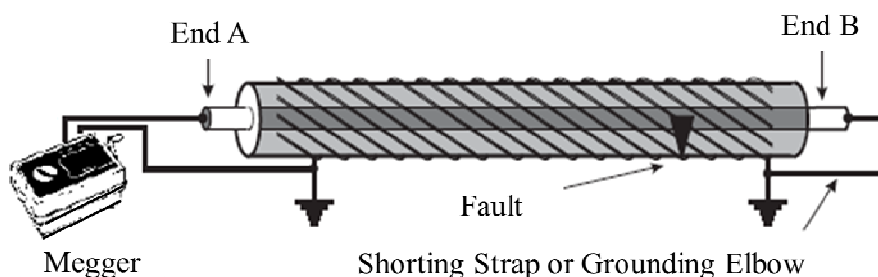

Figure 3: Loop Test for Continuity using Megger
5. Connect a short between the phase and neutral as shown in Fig.3, do a loop test for continuity and record the reading.